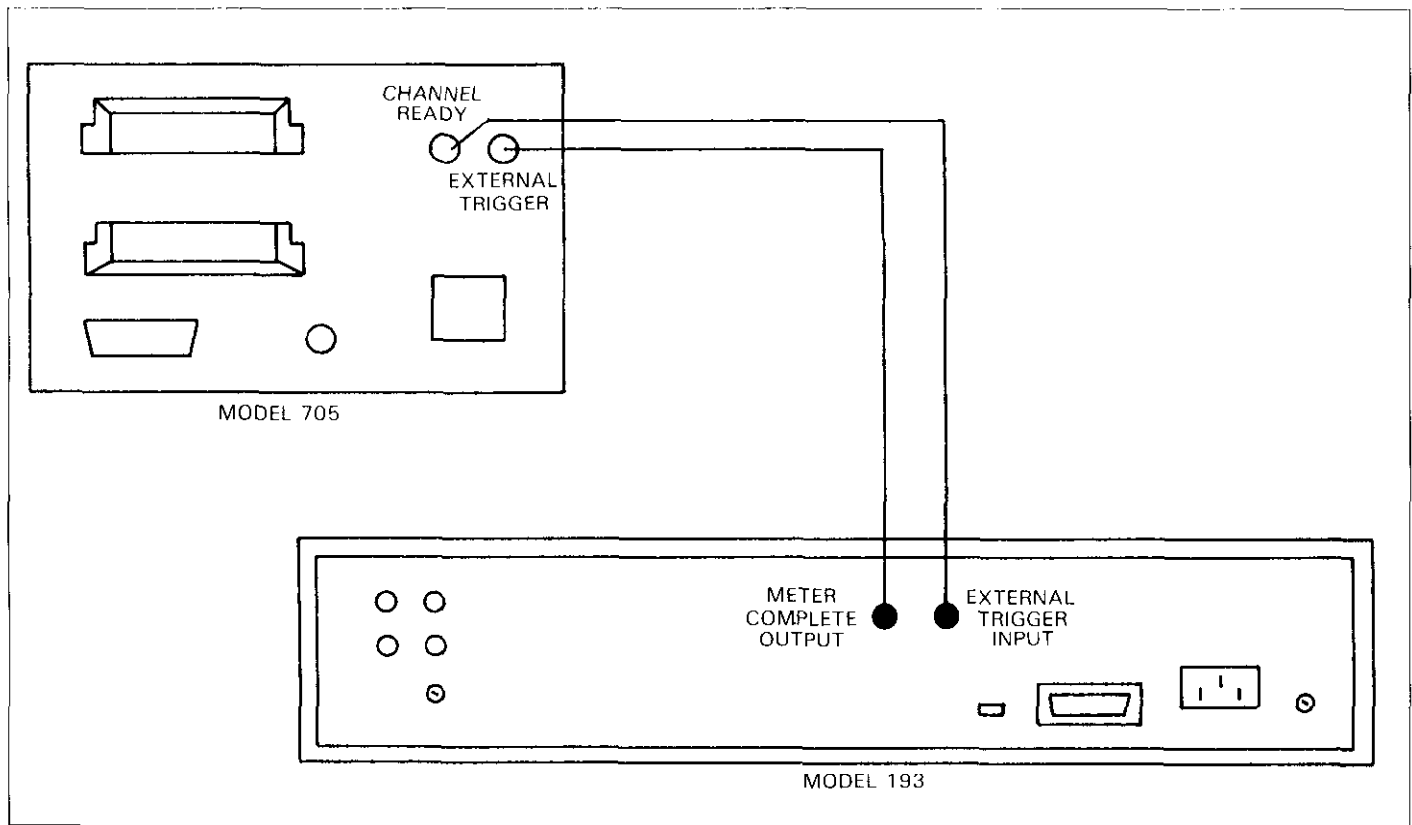

Figure 2-11. External Triggering Example
1. Connect the Model 193 to the Model 705 as shown in Figure 2-11. Use shielded cables with BNC connectors. The Model 193 VOLTMETER COMPLETE OUTPUT jack should be connected to the Model 705 EXTERNAL TRIGGER INPUT jack. The Model 193 EXTERNAL TRIGGER INPUT jack should be connected to the Model 705 CHANNEL READY OUTPUT. Additional connections, which are not shown on the diagram, will